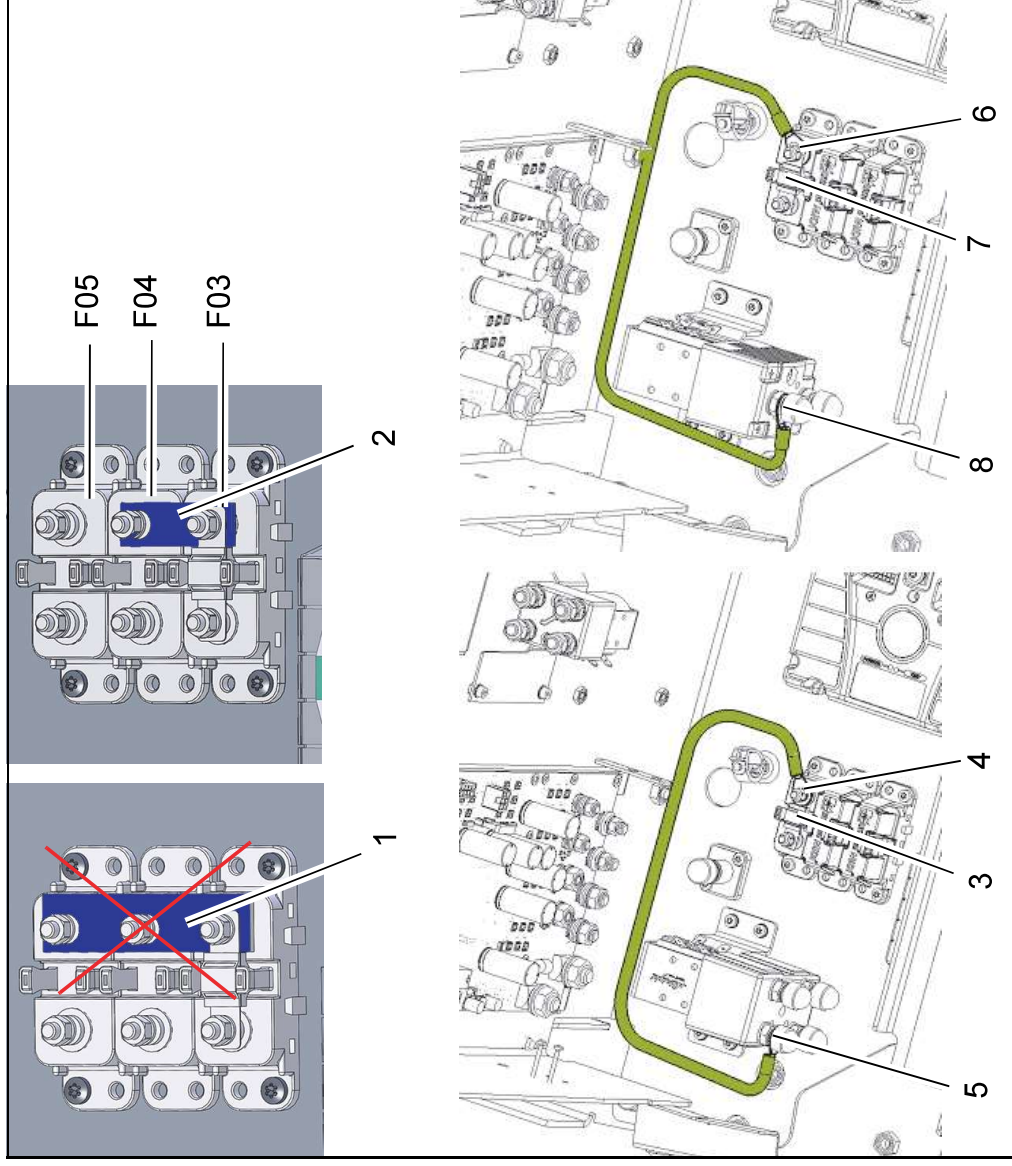

Fig. 4
Check whether there is a dual conductor rail on the fuse carriers via F03 and F04. If there is a triple conductor rail (Fig. 4/1) via F03, F04 and F05, the existing one must be replaced with the provided dual conductor rail (Fig. 4/2).
1. Place fuse F05/1 (30 A) onto fuse holder (Fig. 4/3) and screw to connection F05/1/1 of the WS20 (Fig. 4/4).
2. Connect WS20 with designation K1/K1/1 to relay K1/K1/1 (Fig. 4/5).
1. Place fuse F05 (30 A) onto fuse holder (Fig. 4/6) and screw to connection F05/1/1 of the WS20 (Fig. 4/7).
2. Connect WS20 with designation K1/K1/1 to relay K04/K/P (Fig. 4/8).
Plug diagnosis plug into slot X20 of controller A1 (Fig. 4/1).